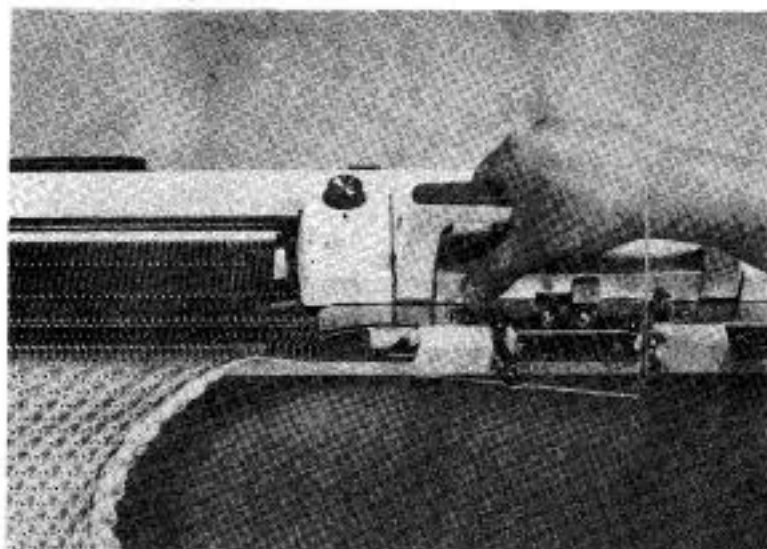

Fig. 118
*** 1st row** Carriage on right. Open both Feeders (out of action position) as shown in Fig. 118. Push in the Row Counter Trip Arm so that the Row Counter will not register. Push back into Position (B) the end needles opposite Nos. 1, 2 and 3 on the N.S.G.S. Move carriage from right to left at the same time pushing in the leading Needle Forwarding Lever (left hand lever). (Fig. 118)